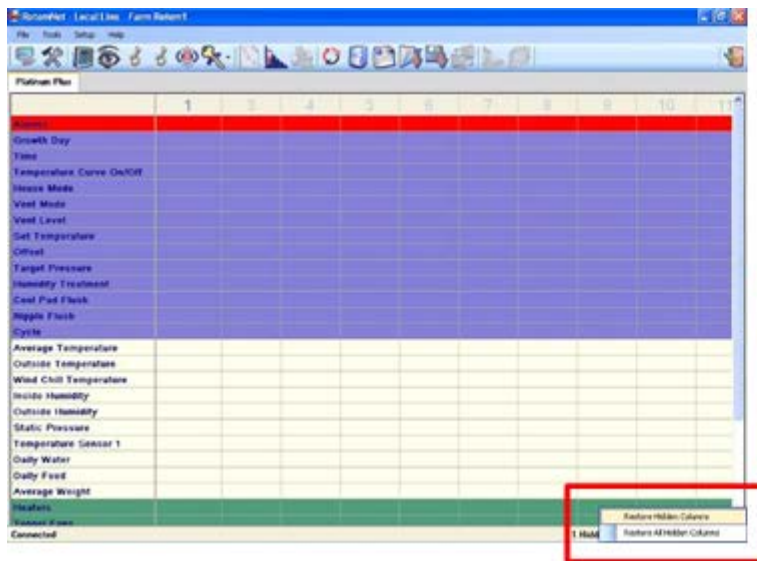

Figure 27: Restore columns option
1. Move the mouse to the right bottom side of the screen (Figure 27).